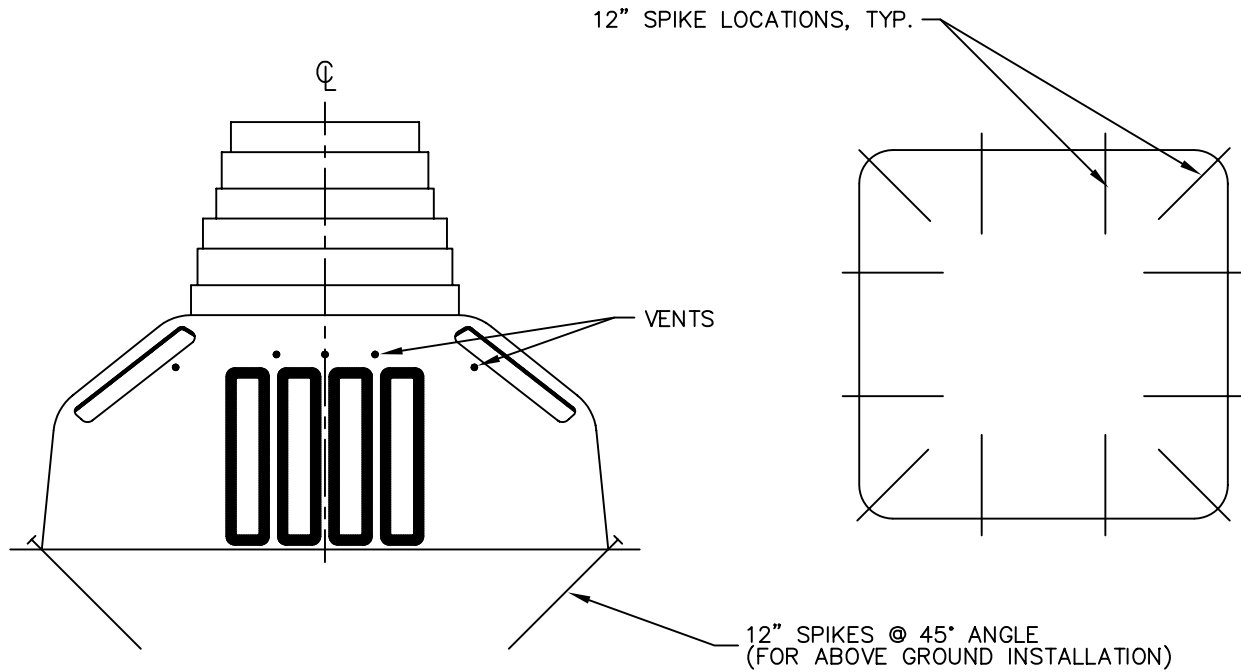

FIGURE 1
The Sound Footings LLC TubeBase™ footing forms are available in two sizes, designated Model TB 22 and Model TB 32, and are for concrete footing widths of 22 inches and 32 inches (559 mm and 813 mm), respectively. The gussets found on all four sides of the form are intended to strengthen and stiffen the forms. The 5/8-inch-diameter (15.9 mm) holes (see Figure 1) are intended to allow trapped air to escape. The top of the Sound Footing LLC TubeBase™ footing form is designed to accept different diameters of construction tubes, by the cutting and removing of rings of the top flange that are smaller than the largest diameter ring that fits inside the construction tube. Model TB 22 is used with nominal 8- and 10-inch-diameter (203 mm and 254 mm) tubes. Model TB 32 is used with nominal 12-inch-diameter (305 mm), 14-inch-diameter (356 mm), 16-inch-diameter (406 mm), and 18-inch-diameter (457 mm) tubes. See Table 1 for details on construction tube diameters and the Sound Footings LLC TubeBase™ footing form top flange diameter.
2.3.2 Grade-level Installations: For installations at ground level, the length of the construction tubes must be such that the combined height of the pier and footing does not exceed 5 feet (1524 mm). The footing forms must be placed on undisturbed soil. To prevent movement of the footing forms during concrete placement, steel spikes must be driven into the soil at a 45-degree angle, through 3/8-inch-diameter (9.5 mm) holes that are field-drilled at a 45-degree angle. Installation must be as shown in Figure 1. Fourteen and sixteen spikes are used for the Models TB 22 and TB 32 footing forms, respectively. The spikes must be a minimum of 12 inches (305 mm) long, with shank diameters of 3/8 inch (9.5 mm) and head diameters of 5/8 inch (15.9 mm). If the spikes do not prevent movement of the footing forms, alternative restraining methods must be used, such as sandbags or backfill.